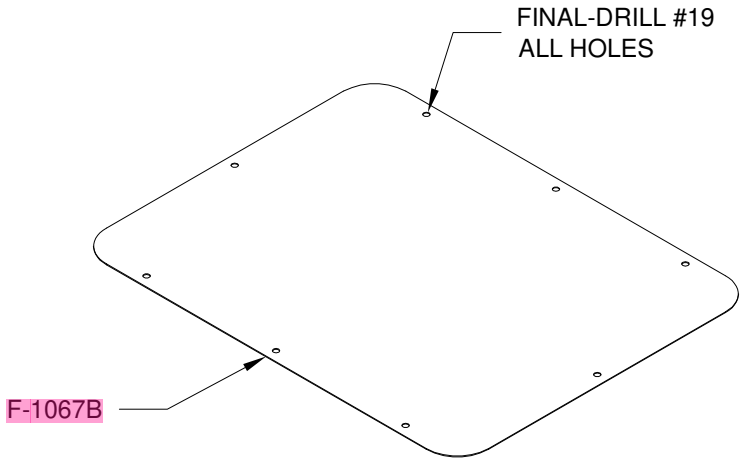

FIGURE 2: SEAT FLOOR COVER
Step 12: Final-Drill #19 all the holes in the F-1067B Seat Floor Covers as shown in Figure 2.